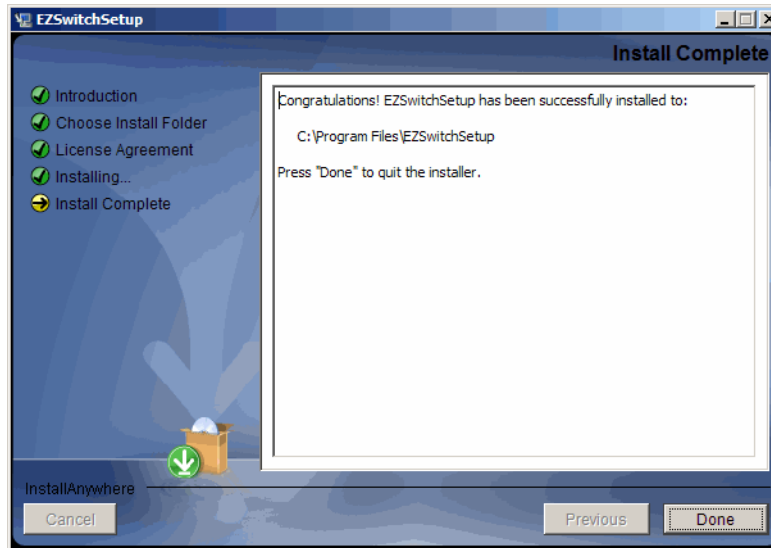

FIGURE 3 EZSwitchSetup Installer
3. Click **Done** on the last screen (shown in Figure 3) to exit the installer.